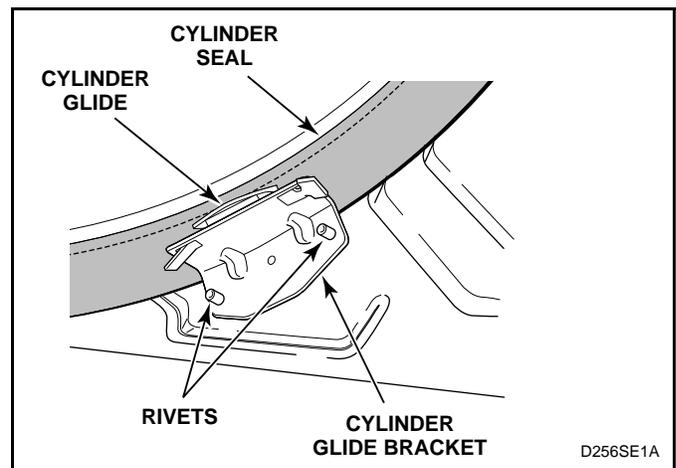

Figure 48
- h. Cylinder Glides and Glide Bracket. See *Figure 48*.